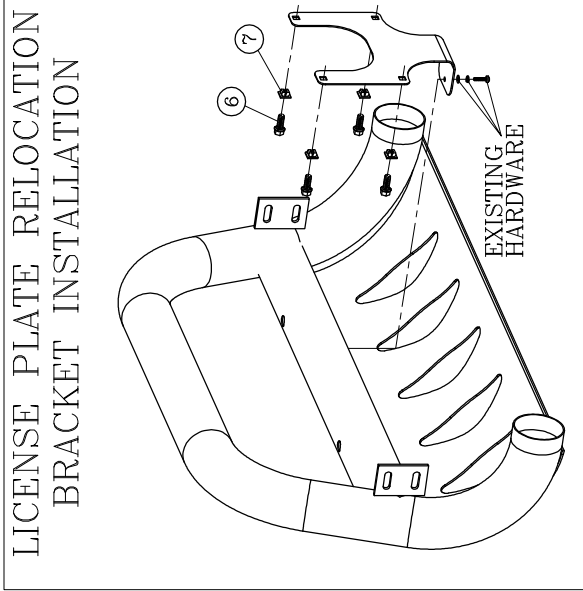

fig. 1
- (1) FASTENER PACKAGE
3. INSTALL THE RIGHT HAND MOUNTING BRACKET (ITEM #2) AS SHOWN IN FIG. 1 USING THE FACTORY HARDWARE. LEAVE THE BOLTS FINGER TIGHT AT THIS TIME.
NOTE: BASED ON YOUR STATE AND LOCAL LAWS, DETERMINE IF YOU NEED TO RELOCATE YOUR LICENSE PLATE PRIOR TO STEP #5. REMOVE/RELOCATE/INSTALL YOUR LICENSE PLATE BRACKET AND LICENSE PLATE BEFORE MOUNTING THE BULL BAR TO YOUR VEHICLE (SEE FIG 1).